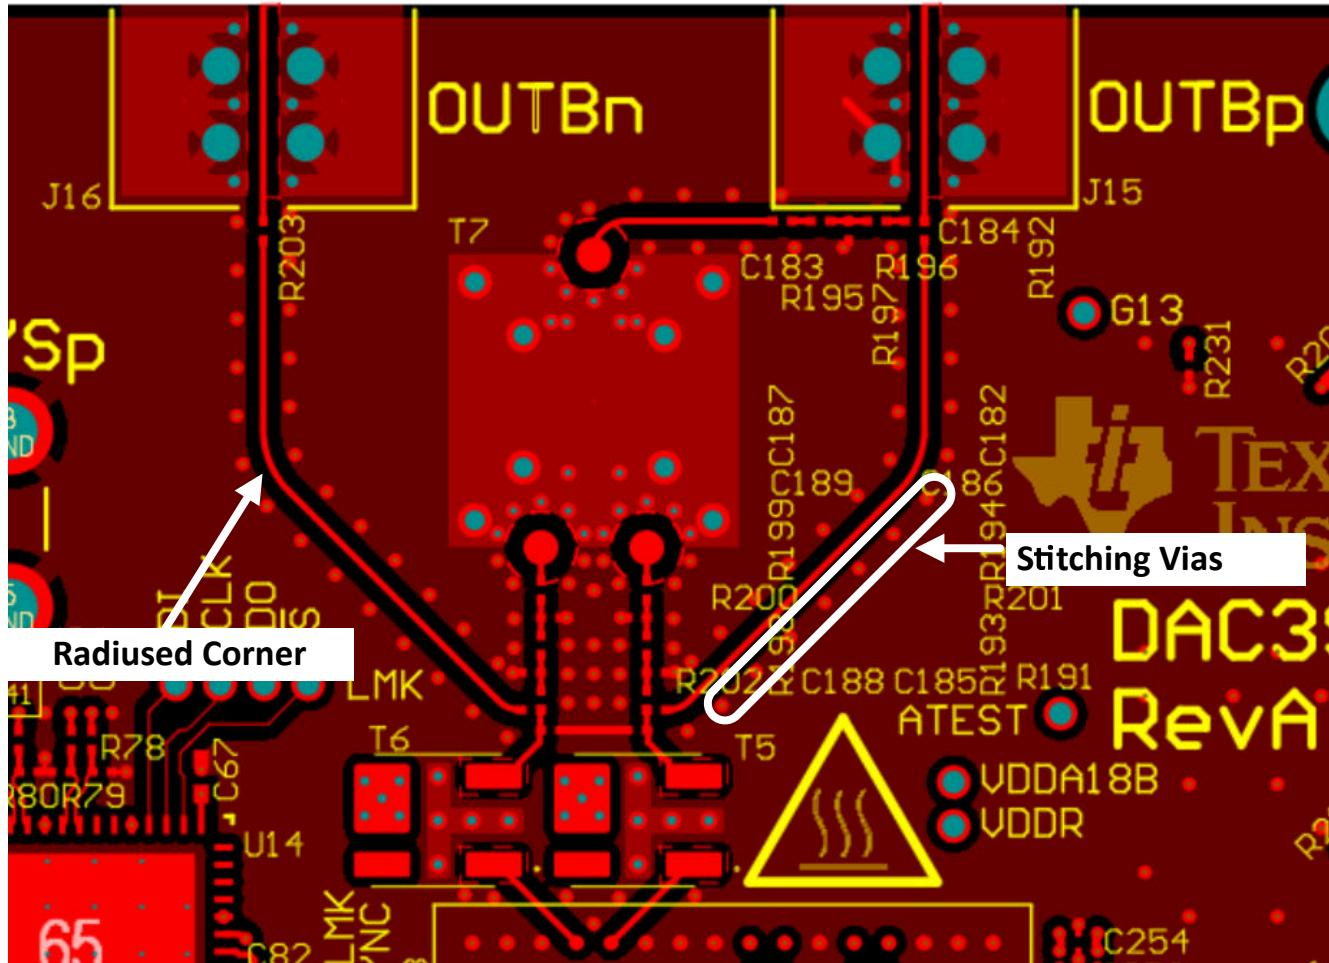

図 8-23. Radius Corner and Stitch Vias next to High\_Speed Signal Trace
4. Use smoothly radiused corners and avoid 45- or 90-degree bends to reduce impedance mismatches on all high-speed inputs/outputs for both analog and digital signal traces. See 图 8-23 as an example.
7. Provide symmetrically located ground tie stitching vias adjacent to any high-speed signal at an appropriate spacing as determined by the maximum frequency the trace transports ( $\lambda/4$ ). See 図 8-23 as an example.